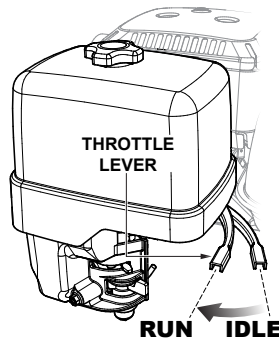

Figure 15. Throttle Lever (Run)
9. To begin pumping, place the throttle lever (See Figure 15) in the **RUN** position. If water is not flowing out of the discharge port, turn off the engine and check for and clear any obstructions within the suction hose.
2. After the engine cools, turn the engine **ON/OFF** switch to the **OFF** position (See Figure 15).